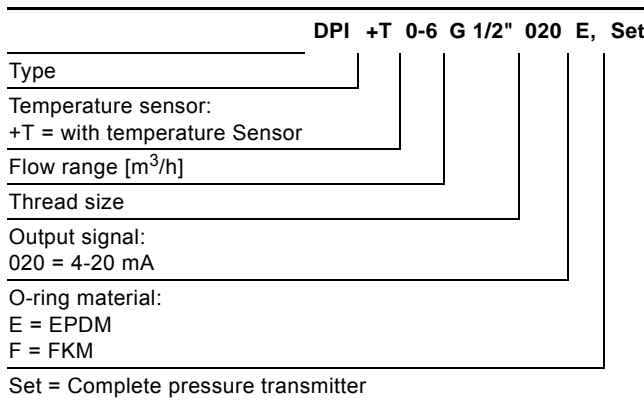

**Fig. 17** Stripped cable with screen and wire connection
- Connect the screens of the cables to frame at both ends with good frame connection. The screens must be as close as possible to the terminals. See fig. 17.